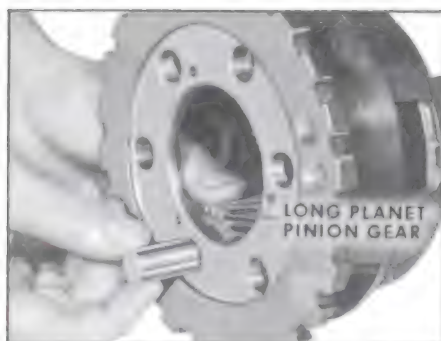

Figure 5-274
5. Position the long planet pinion assembly with the thrust washers at each end, in the planet carrier. Install the pinion shaft from the front of the carrier. As the shaft is being pushed in, make certain that it picks up the thrust washer. Turn the pinion shaft so the groove faces the center of the planet carrier. See Figure 5-274.